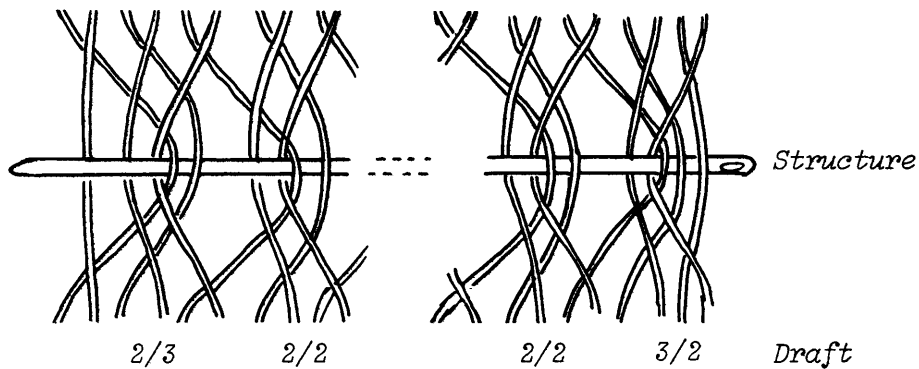

Fig. 5 *Mexican Doubles*
Variation of Mexican Doubles (the group of 4 lenos in Fig. 5 is repeated across the web)
4. Mexican Doubles (illustrated in Fig. 5).